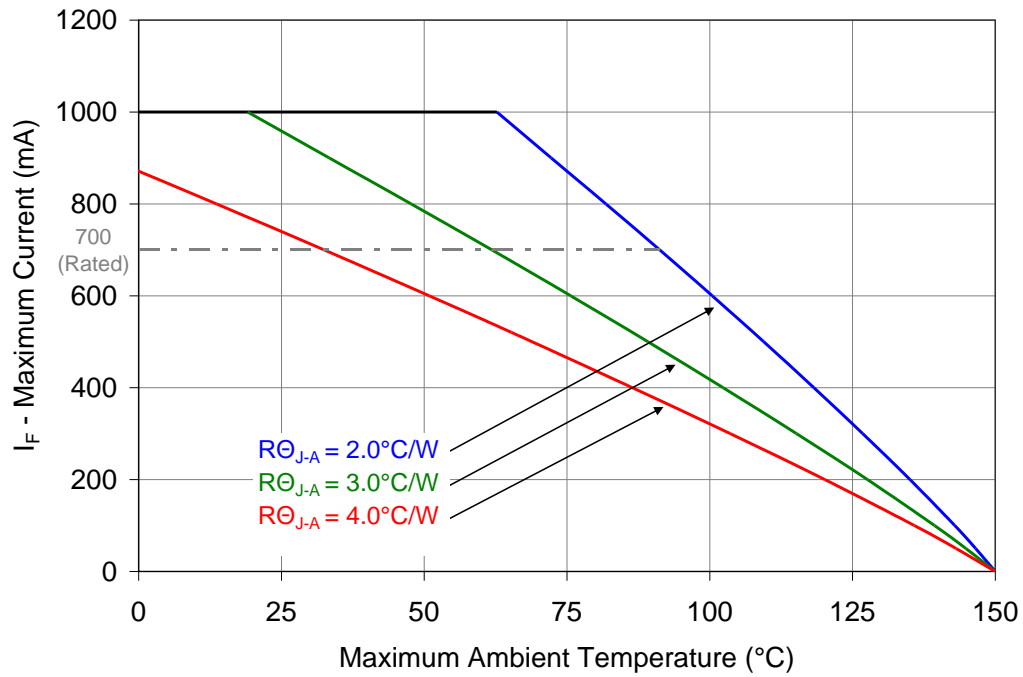

Figure 10: Maximum forward current vs. ambient temperature based on  $T_{J(\text{MAX})} = 150^{\circ}\text{C}$ .
- Maximum DC forward current (per die) is determined by the overall thermal resistance and ambient temperature. Follow the curves in Figure 10 for current derating.
### Notes for Figure 10: